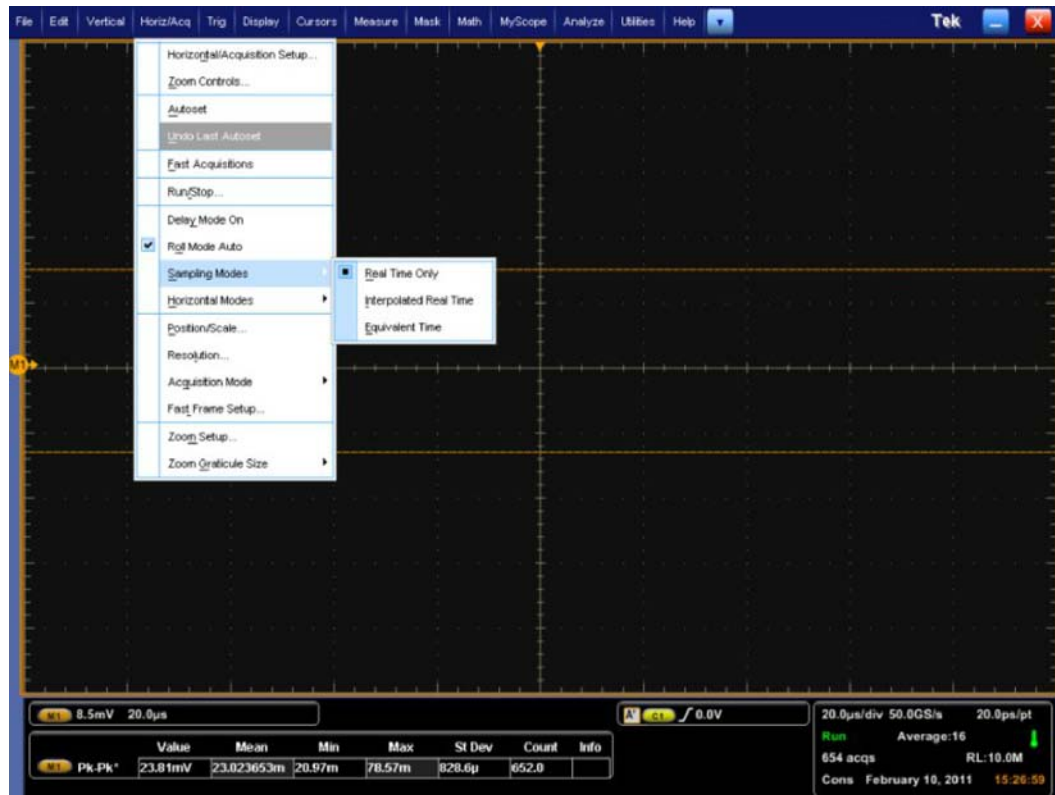

Figure 26: Configuring Oscilloscope Sample Mode
- 4.3.6.2 **Configure oscilloscope Acquisition Mode to “Averaging”. See Figure 26 for details:**